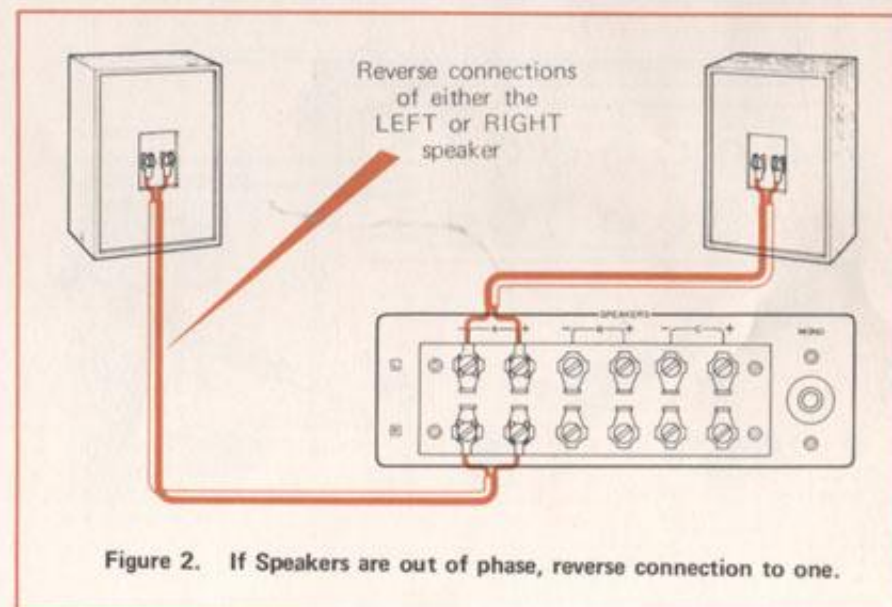

Figure 2. If Speakers are out of phase, reverse connection to one.
3. After your speakers are connected, listen to the intensity of the bass tone. Then reverse the lead connections of the speakers and listen to the sound again. (See Figure 2). The position of the lead connections where the bass intensity was the greatest is the proper one and the speakers will then be permanently in phase.